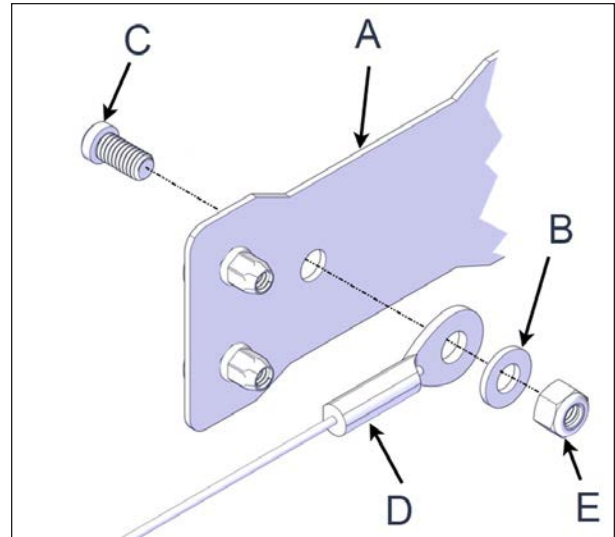

FIGURE 35: WIRE INSTALLATION
1. Install the cable with the eyelet flat side in contact with the long connection plate, see Figure 35. See the table following the image for the fasteners to use.